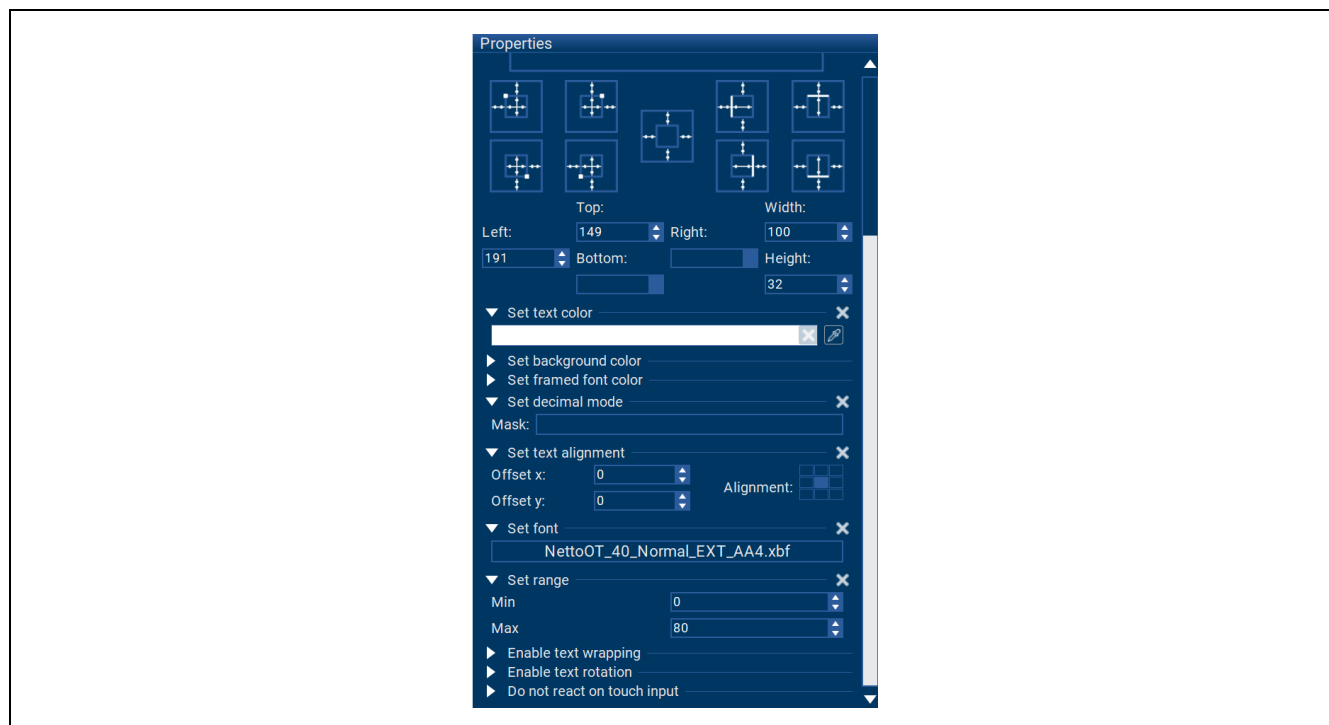

Figure 1-19 Text Object - Properties
- 1). Configure the color, decimal mode, text alignment, and value display range for the Text object. The actual configuration items are shown in Figure 1-19.